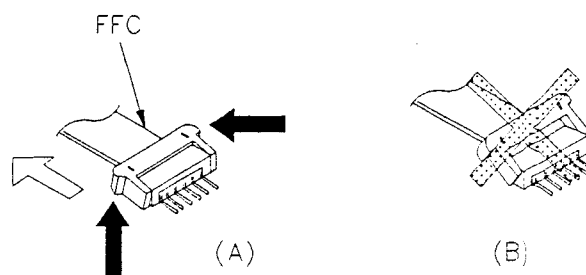

Fig. 4-15-2
3. When disconnecting the FFC6P and the FFC10P, refer to the disconnecting method shown in Fig. 4-15-2.
Hold the protruded parts (shown by the black arrows) of the connector and pull the connector in the direction shown by the white arrow to release the lock. Then, pull the FCC (flat cable) and the cable will be removed. Don't pull the connector as shown in Fig. 4-15-2 (B). If pulled strongly in the direction to be opened, the cable will be damaged.